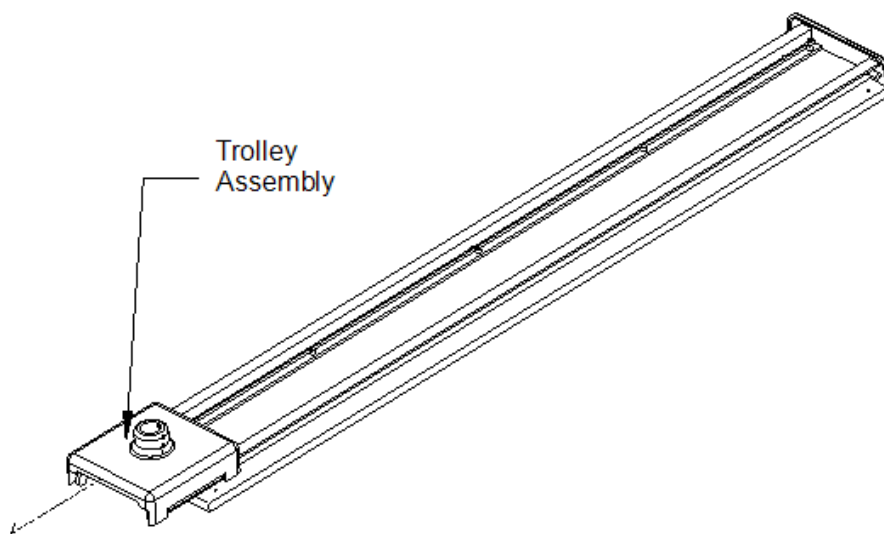

Figure 30. Trolley Assembly Removal
- Slide the trolley assembly P/N 1000187 off the track. See Figure 30. Trolley Assembly Removal.